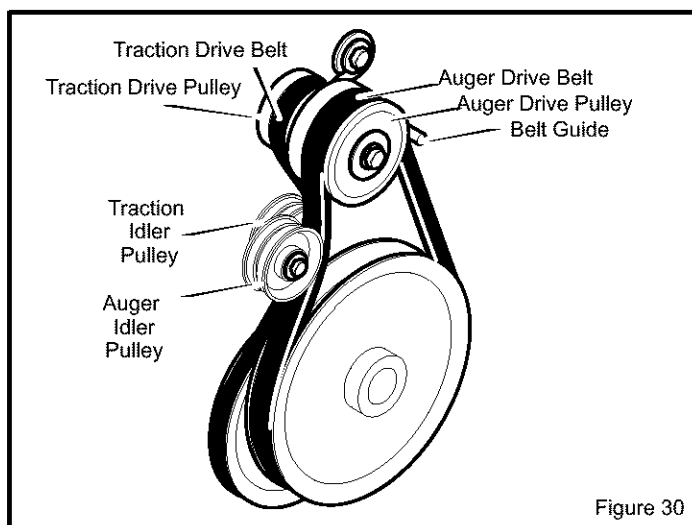

Figure 30
3. Loosen nut on auger idler pulley and move auger idler pulley towards belt about 1/8 inch (3 mm) (see Figure 30).
### AUGER DRIVE BELT (SEE FIGURE 30)
6. Loosen belt guide and pull away from auger drive pulley. See Figure 30.
7. Loosen belt guide and pull away from auger drive pulley. See Figure 30.